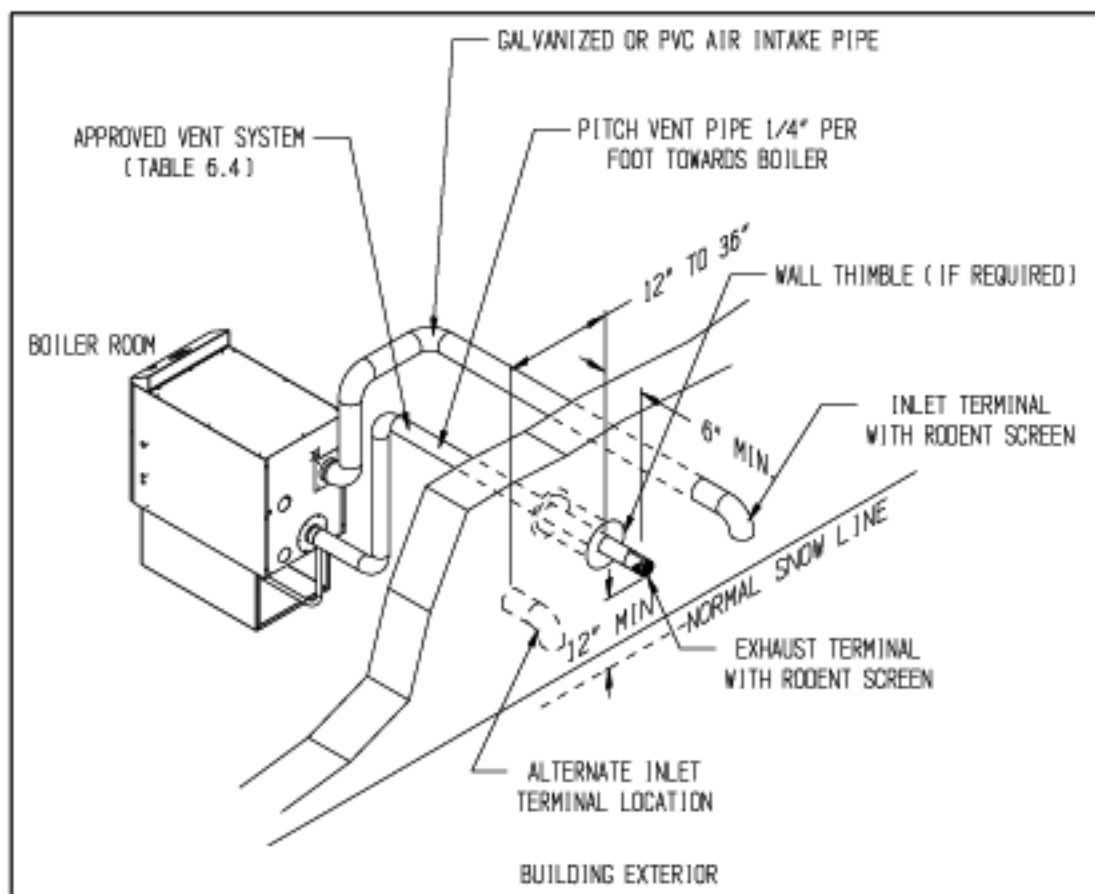

FIGURE 6.2: HORIZONTAL TWIN PIPE VENTING (VENT OPTIONS 1,2,3)
- **Vent Option 1, 2 & 3** - Exhaust terminal is either Crown PN 240513 (4" vent systems) or PN 240514 (5" vent systems). The air intake terminal is a 90 degree elbow with a rodent screen supplied by the installer. This elbow is made out of the same material as the rest of the air inlet system (either galvanized or PVC) and is installed as shown in Figure 6.2.